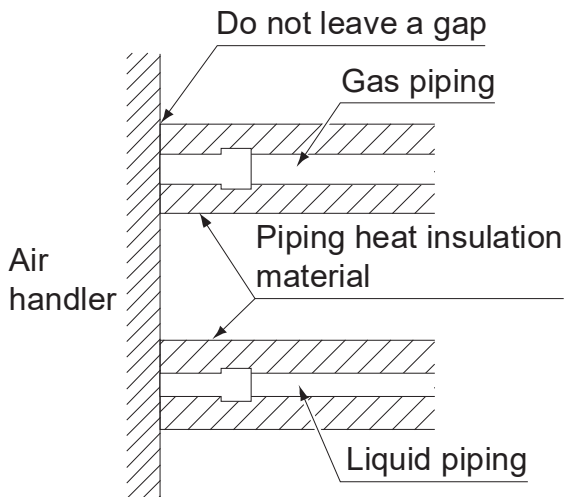

FIGURE 13
4. After checking for gas leaks, be sure to insulate the piping connections referring to Figure 13.